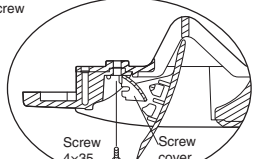

Fig. 7-6
- (7) Fit the supplied screws into the holes at the panel center (2 locations, front and rear), and tighten them. As shown in the Fig. 7-6, open the screw cover at the center of the discharge outlet, then insert and tighten the screw, and again close the cover.